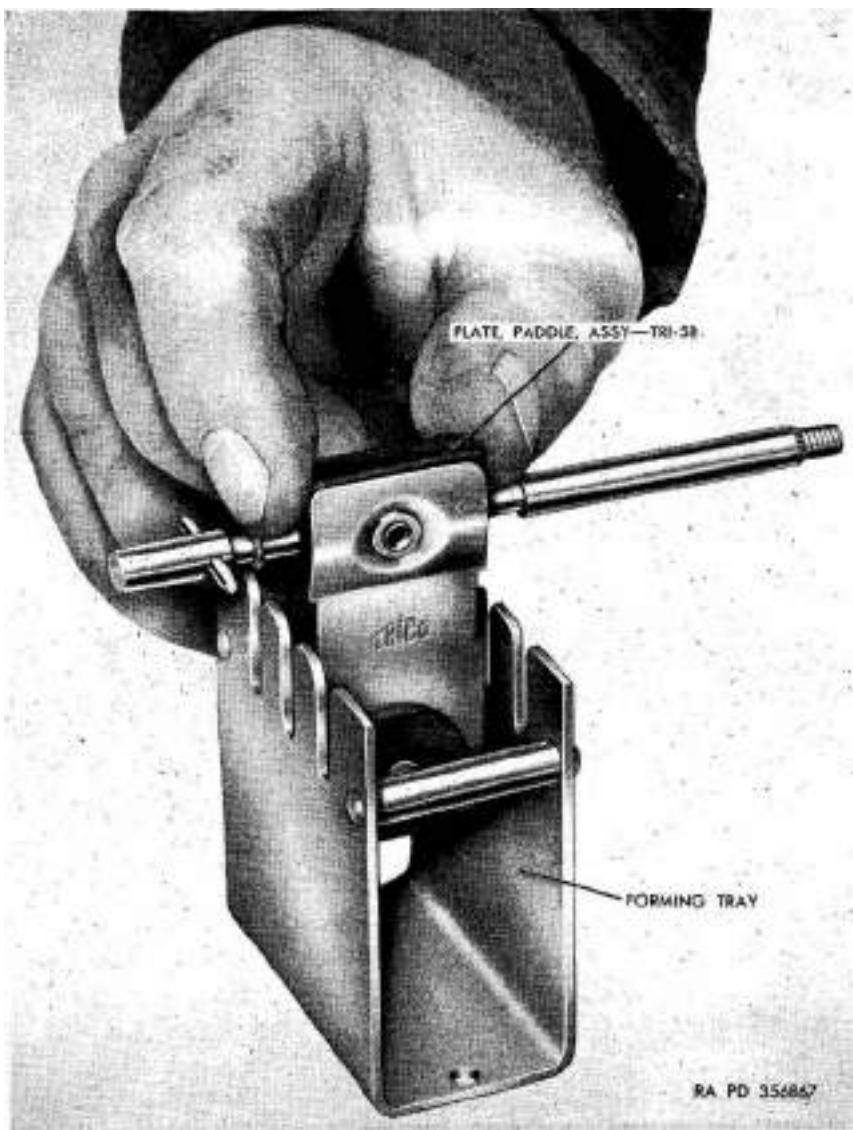

Figure 194. Forming paddle plate edges with forming tray from
c. *Form Edges of Paddle Plate Assembly.* Form sides and bottom edges of paddle plate toward center of paddle with a smooth punch and slide paddle into forming tray (*fig. 194*) from tool kit 41-K-280 as far as it will go. Allow paddle to remain in tray for 10 minutes.